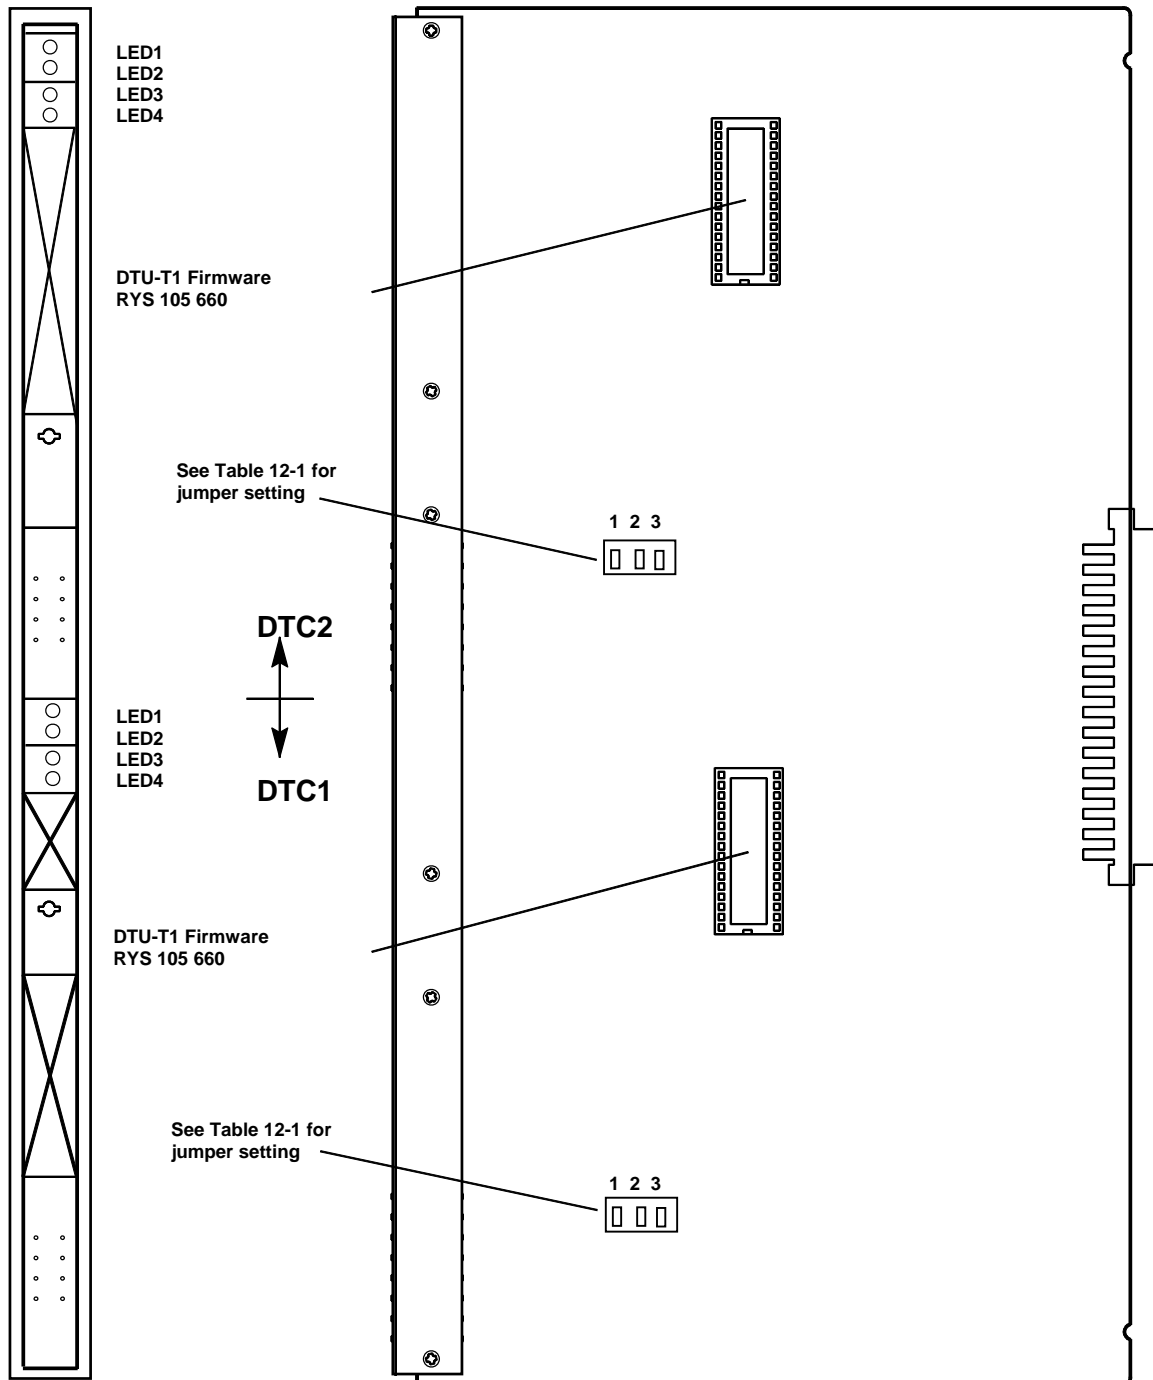

Fig. 12-1 DTU-T1 – REX-BRD0021 or 2/ROFNB 157 13/2
The DTU-T1 has the following field-exchangeable parts (see Figure 12-1 for placement & orientation):
1. Place the DTU-T1 Firmware PROMs and set the jumpers (see Figure 12-1 and Table 12-1).